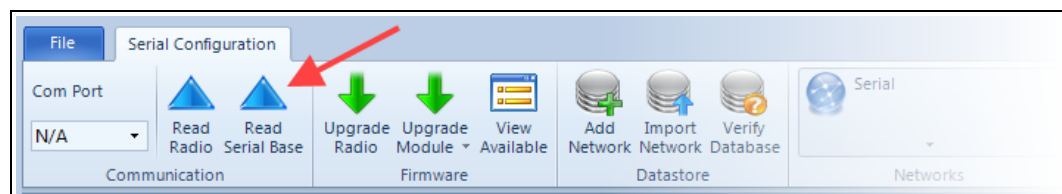

Figure 11: Tool Suite Configuration ribbon
3. Click **Read Serial Base** to read the latest settings and configurations from the Serial Base and all the Expansion Modules in the stack. (Figure 11)